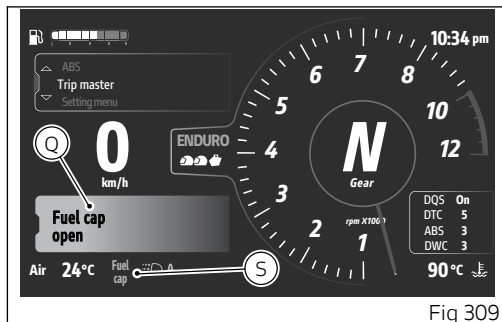
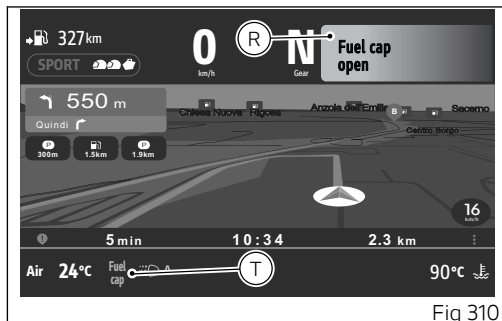

Fig 309
Fig 310
- when activated, it is displayed for the first 5 seconds in the large format (Q main screen, Fig 309) (R Ducati Connect screen Fig 310);
- then it is displayed in the small format (S main screen, Fig 309) (T Ducati Connect screen Fig 310).